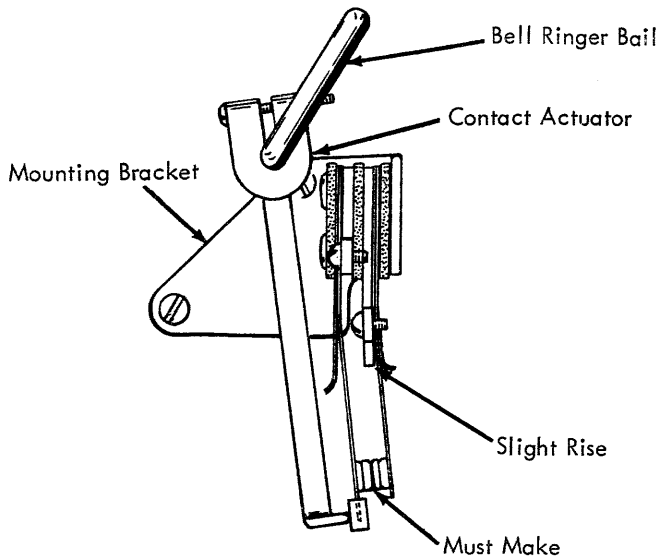

FIGURE 185. Last Column Contact
- c. As the carrier moves from the next to last to last space, check for the following conditions (Fig. 185).